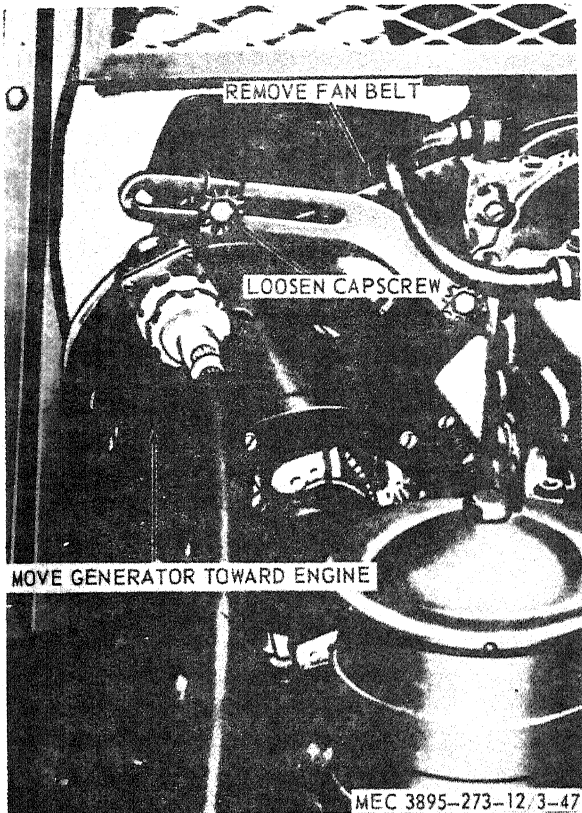

Figure 3-44. Fan belt, removal and installation.
- (1) Remove the hydraulic pump drive belt (para 3-112).
- (2) Remove the grille (para 3-75).
- (3) Remove the fan belt as instructed on figure 3-44.
- (1) Install the fan belt in reverse of the instructions on figure 3-44.
- (2) Adjust the fan belt (para 3-13).
- (3) Install the hydraulic pump drive belt (para 3-112).
- (4) Install the grille (para 3-75).